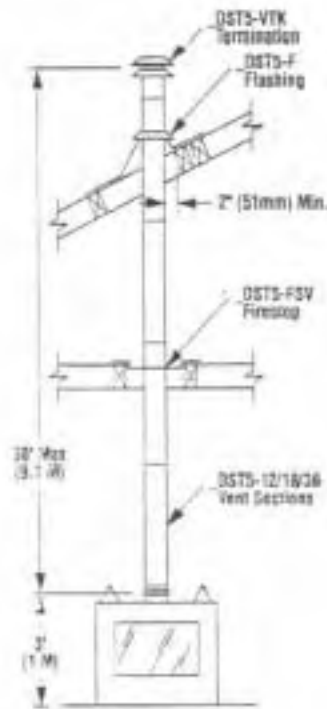
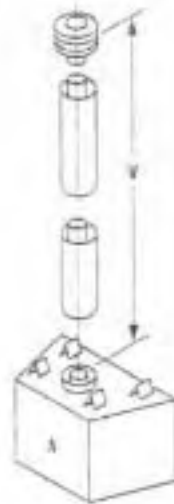

Figure 14
Figure 15 (Straight)
The Figures 14 through 16 and the Vertical Vent Table on page 8 illustrate the various vertical venting configurations that are possible for use with these top vent appliances. The maximum vertical height for the \_DVT8 system is 30' (7.6 m) above the top of the appliance. Figures 15 and 16 along with Vertical Vent Table identify: (A) straight vertical system and (B) vertical system that employs two (2) 90° elbows. The Vertical Vent Table summarizes each system's minimum and maximum vertical and horizontal values that can be used to design and install the vent components in a variety of applications.